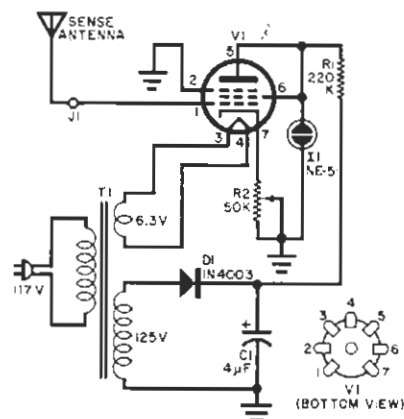

Fig 1. The circuit uses a variable- $\mu$  pentode whose operating bias is set to make the control grid extremely sensitive.
**Circuit Operation.** As shown in Fig. 1, remote cut-off pentode, *V1*, whose operating bias is set by *R2*, acts as a switch connected across neon lamp *I1*. The control grid of *V1* (pin 1) is floating, thus producing an extremely high input impedance. This makes the circuit very sensitive to electrostatic fields such as those that appear